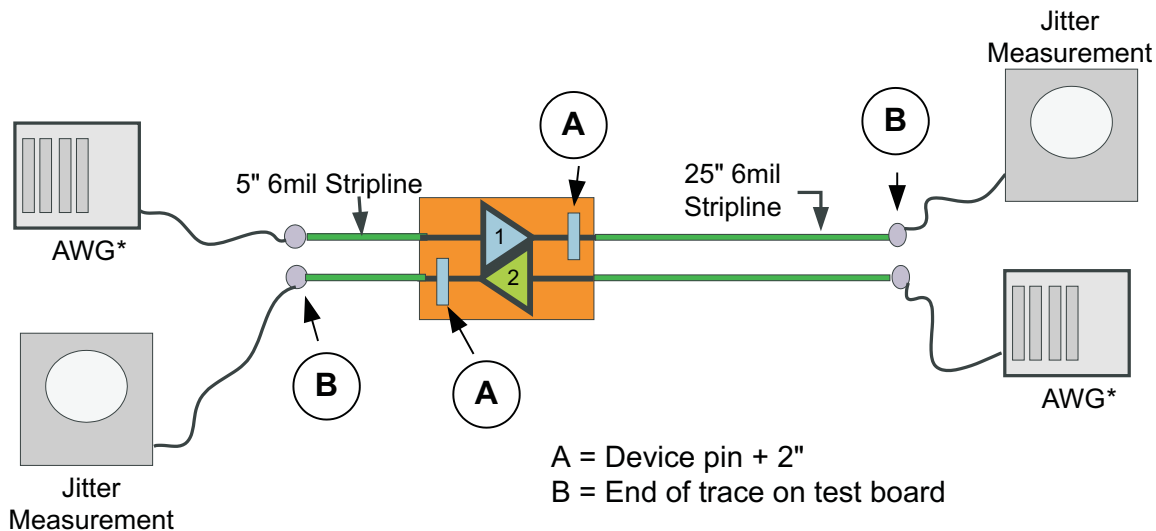

Figure 10. Jitter Measurement Setup
| T _{TX-TJ} ⁽¹⁾ | Total Jitter | At point A in Figure 10 ⁽²⁾ | 30 | | 50 | ps pp | |
| | | At point B in Figure 10 ⁽²⁾ | 25 | | 80 | | |
| T _{TX-DJ} | Deterministic Jitter | At point A in Figure 10 ⁽²⁾ | 16 | | 30 | ps pp | |
| | | At point B in Figure 10 ⁽²⁾ | 11 | | 60 | | |
(1) Includes RJ at 10⁻¹²
(2) Refer to Figure 10 with ± K28.5 pattern at 5Gbps, -3.5dB DE from source AWG .